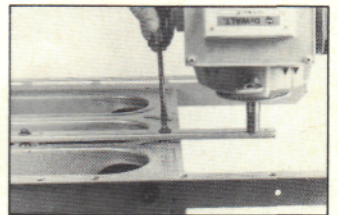

Fig. 4
- (viii) Now adjust the central table support strip in the same way so that it is perfectly level with the two side support brackets. (Fig. 4).